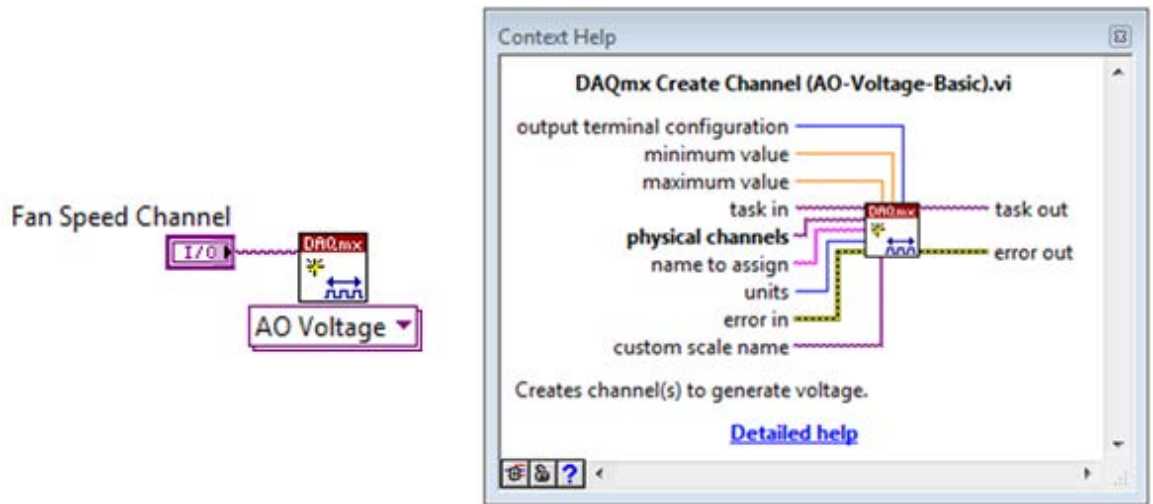

Figure 26. In this instance, the only thing you need to wire is the channel input to the physical channels input.
6. Wire the VI as seen in Figure 26.